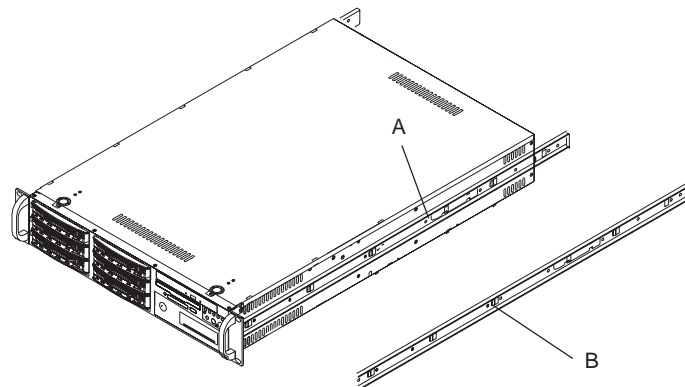

Figure 2-1. Identifying the Sections of the Rack Rails
You should have received two rack rail assemblies with the SuperServer 6023L-8R. Each of these assemblies consist of three sections: an inner fixed chassis rail that secures to the 6023L-8R (A) and an outer fixed rack rail that secures directly to the rack itself (B). A sliding rail guide sandwiched between the two should remain attached to the fixed rack rail. (See Figure 2-1.) The A and B rails must be detached from each other to install.